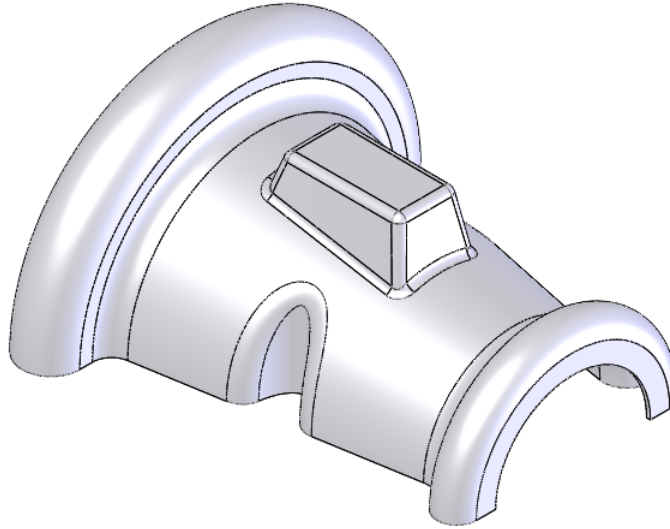
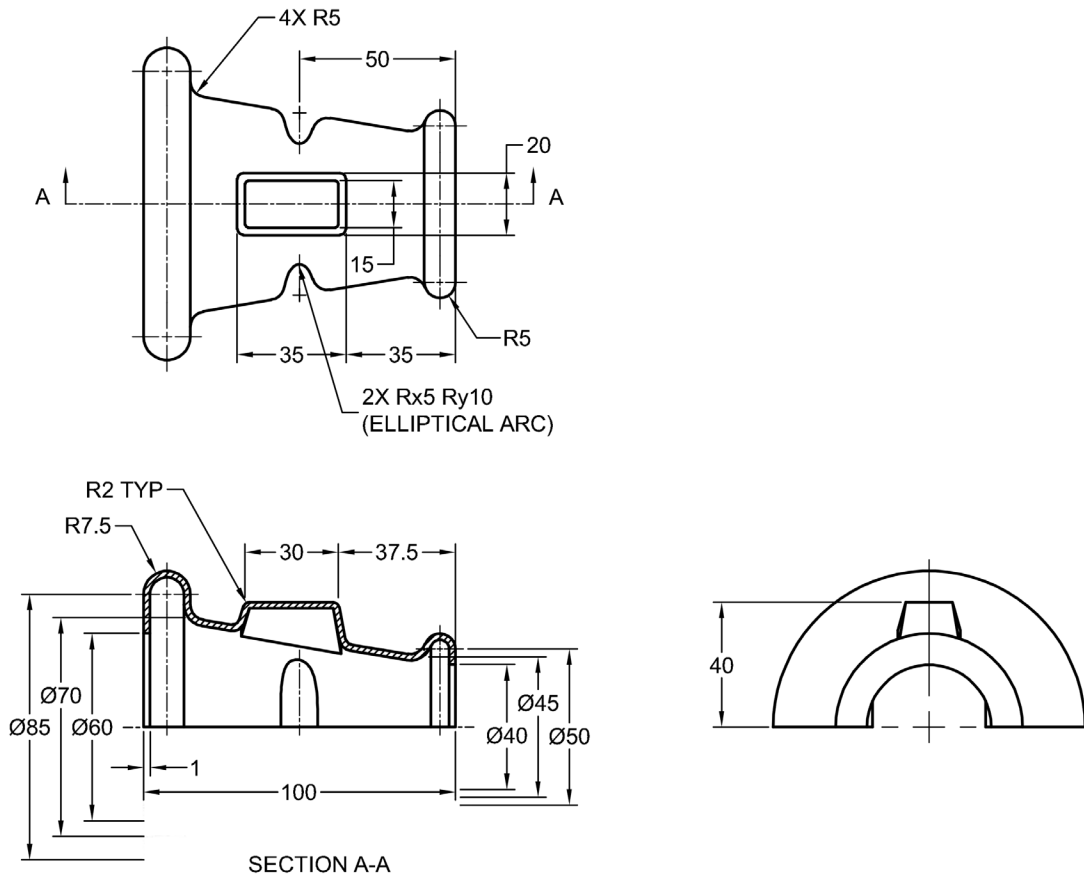
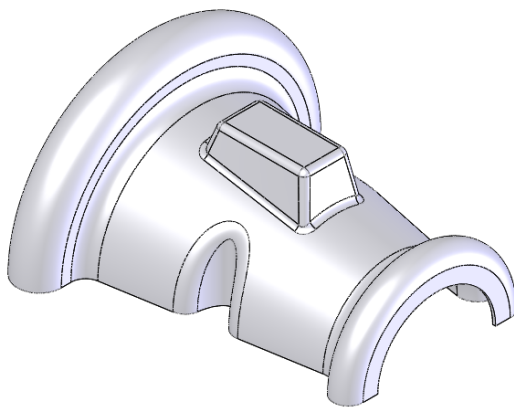

Figure 1-117 Model for Tutorial 1
Figure 1-118 Views and dimensions of the model for Tutorial 1
Figure 1-135 Final surface model
In this tutorial, you will create the model shown in Figure 1-117. You will create the model using the surface modeling tools available in the **Surfaces CommandManager** and then add wall thickness to the surface model. The views and dimensions of the model are shown in Figure 1-118.
4. Add required fillets to the model. For dimensions of the fillets, refer to Figure 1-118. Final surface model after adding the fillets is shown in Figure 1-135.